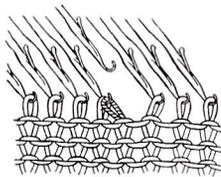

Fig. 68
- a. Using the single transfer tool, transfer the center stitch on the neighboring needle on either side. (See Fig. 68)